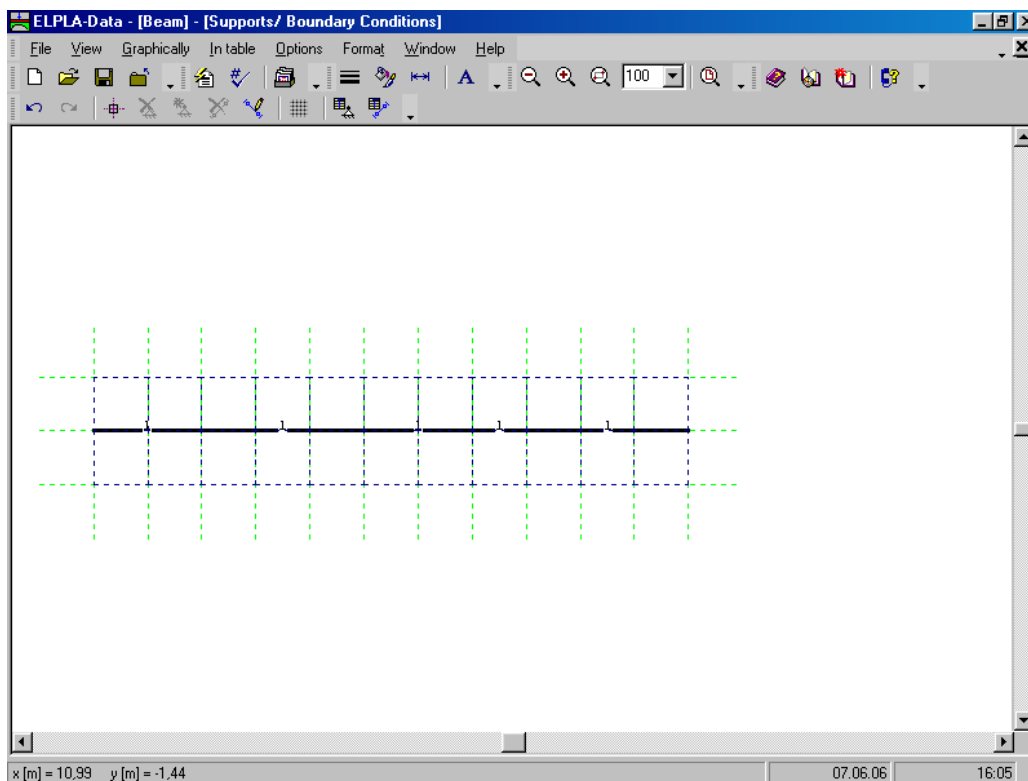
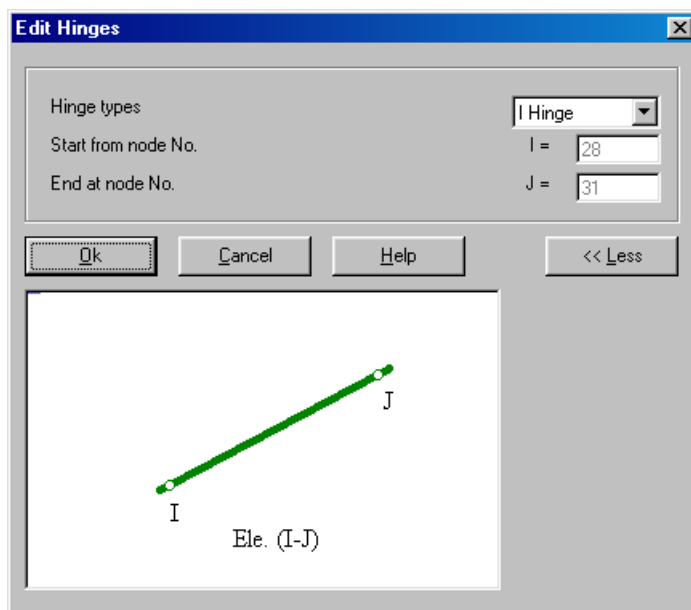

Figure 8-20 Girders are drawn as simple lines
Figure 8-24 "Edit hinges" dialog box
After clicking "OK" in the "Plot parameters" dialog box, the girders are drawn as simple lines as shown in Figure 8-20.
- Choose "Select nodes" command from the "Graphically" menu in Figure 8-20. When "Select nodes" command is chosen, the cursor will change from an arrow to a cross hair
To define the hinged node, the hinge is defined from two sides on both left and right elements that have a hinged end. Choose "Edit hinges" command from the "Graphically" menu in Figure 8-20. When "Edit hinges" command is chosen, the cursor will change from an arrow to a cross hair. Double click on the element that has a hinged end. "Edit hinges" dialog box in Figure 8-24 appears.
Double click on the other element that has the hinged end. "Edit hinges" dialog box in Figure 8-24 appears.